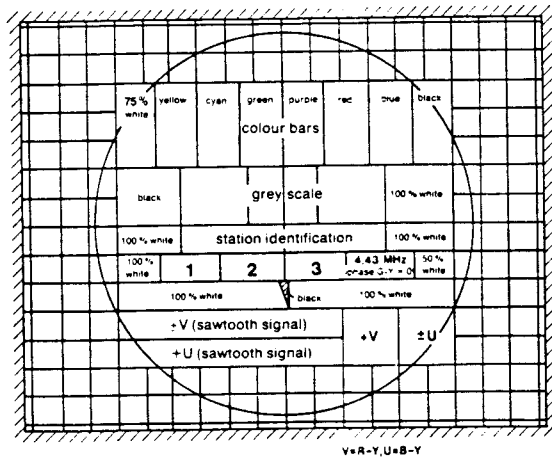

Fig. 5
**Test picture, (Fig. 5) adjust using a plastic tool.**